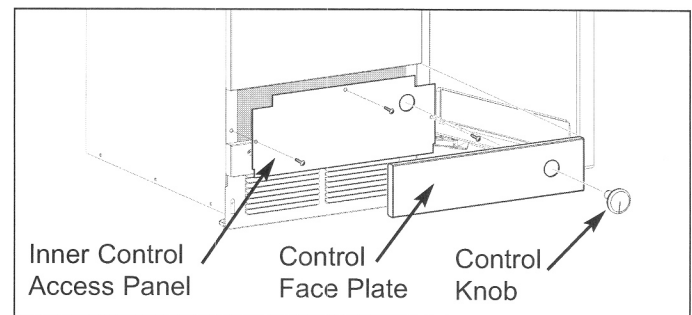

Figure 4-9. Remove Control Knob, Face Plate & Access Panel
4. Pull the control knob from the ice machine control shaft. (See Figure 4-9)
5. Remove the control face plate by pulling the top forward to disengage the velcro strips, then lift up. (See Figure 4-9)
6. Remove the inner control access panel by extracting the three screws, then lower the panel slightly and pull forward. (See Figure 4-9)